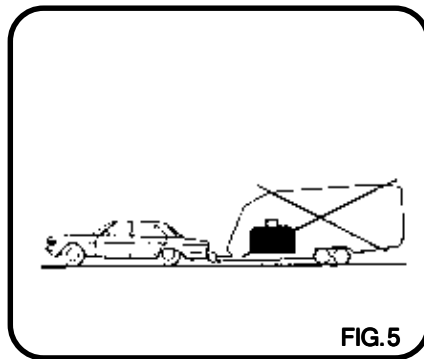

FIG.5
**Load Too Far Forward (Fig. 5)**